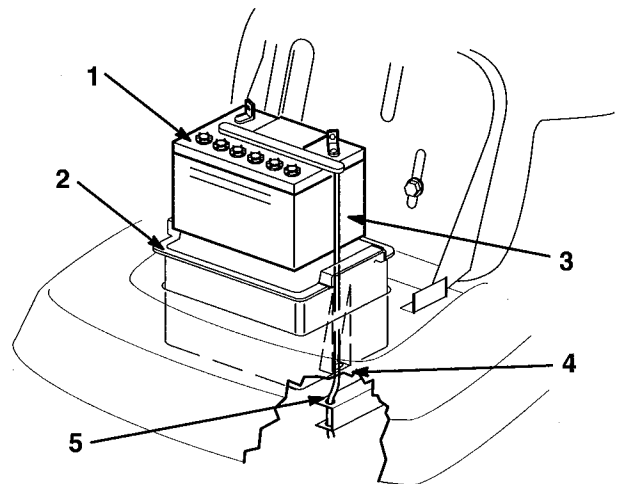

Figure 19
5. Remove the battery box, battery, and long vent tube from the chassis (Fig. 19).
1. Put the battery into the battery box and slide the vent tube into the channel and through the slot in the bottom of the box (Fig. 19).
IMPORTANT: Look down into the cut out area where the battery box fits into the chassis. Notice the holes at the end of the right frame member (Fig. 19). Always install the long battery vent tube through the holes to prevent battery acid from corroding the tractor and mower.
2. Install the battery box and battery into the chassis (Fig. 19). Make sure to slide the end of the vent tube through the holes in the frame (Fig. 19).